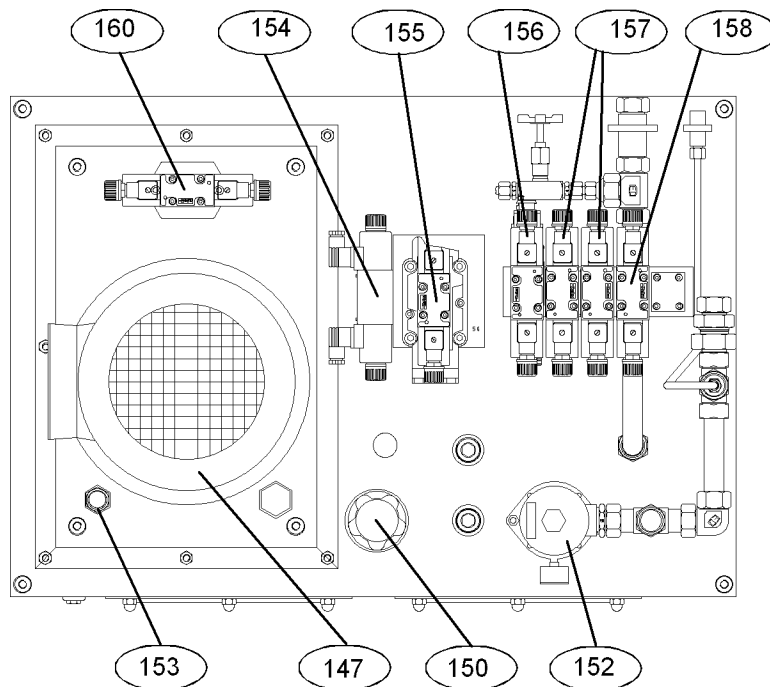

Fig. 75 Hydraulic Aggregate (View from above)
The return filter (152, Fig. 75) mounted on the tank is equipped with an optical (162) and electronic dirt indicator. The indicator should be checked regularly to ensure a timely change of the filter element.